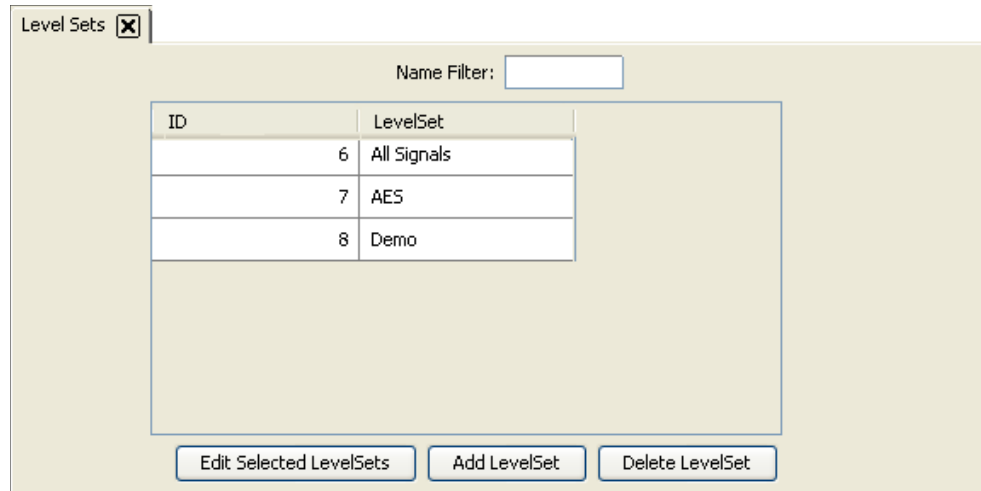

Figure 8-29. Level Sets Page
- 2 From the Navigation area, select the ‘Configuration’ pane and then ‘Level Sets’. The ‘Level Sets’ page displays, as shown in Figure 8-29.